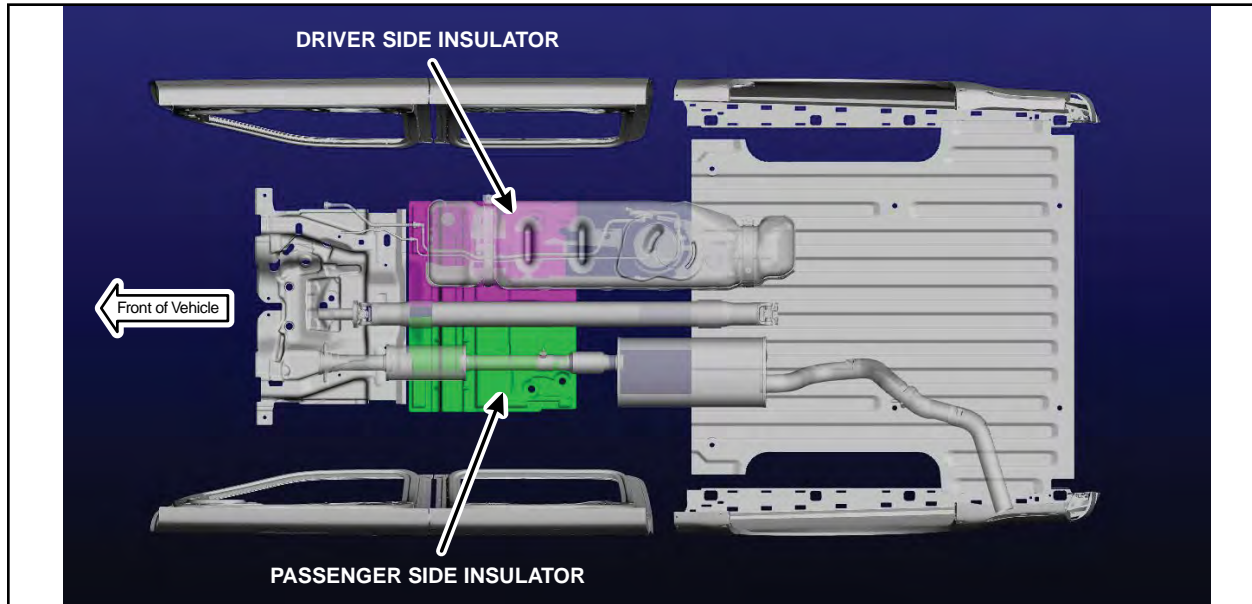

FIGURE 1
2. Are either one or both of the underbody insulators present on the vehicle? See Figure 1.